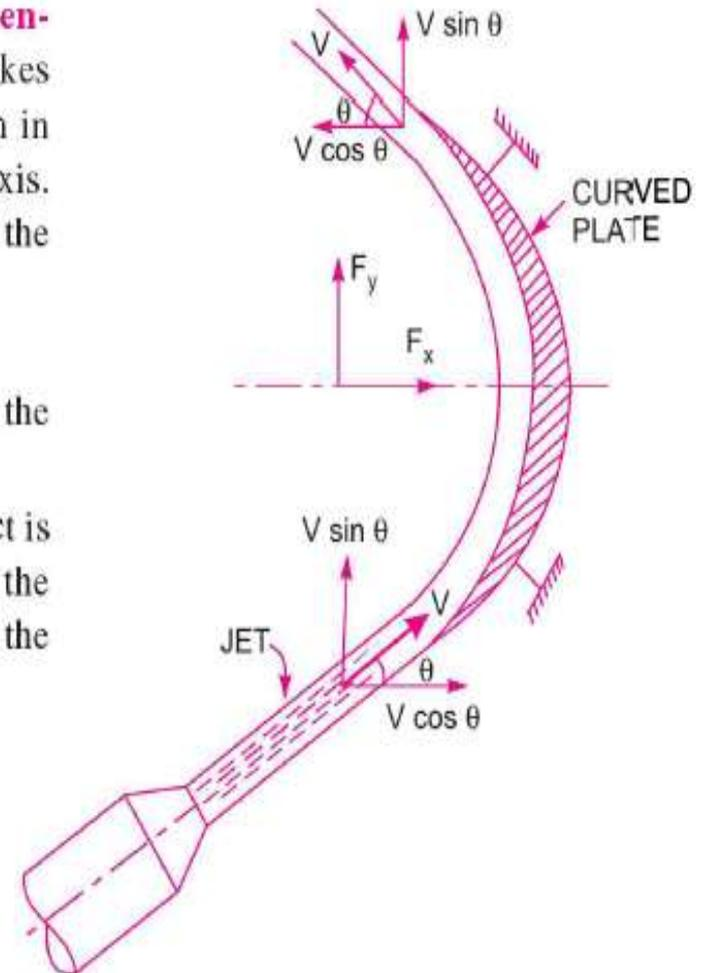

Fig. 4 Jet striking curved fixed plate at one end.
(B) Jet strikes the curved plate at one end tangentially when the plate is symmetrical. Let the jet strikes the curved fixed plate at one end tangentially as shown in Fig. 4. Let the curved plate is symmetrical about x -axis. Then the angle made by the tangents at the two ends of the plate will be same.